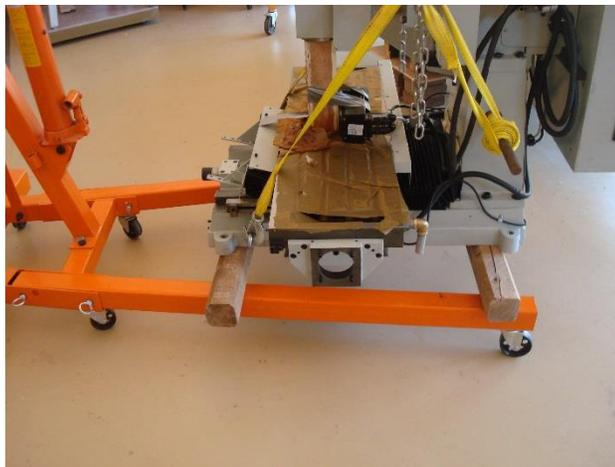

Figure 3-51
- 14) Before moving the engine hoist, place 4 x 4's onto its base, and lower the Torus PRO Mill on to the engine hoist frame (Figure 3-51).